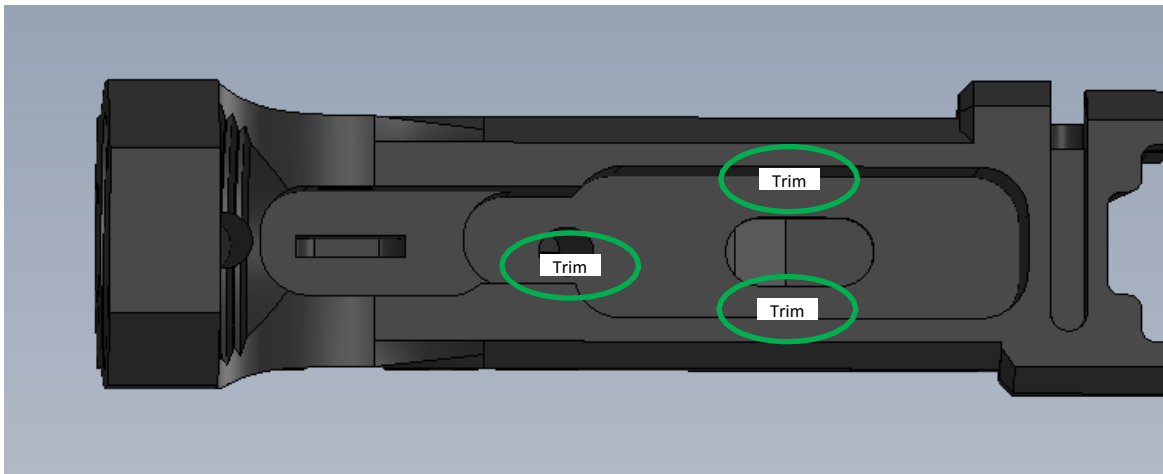

Figure 4
12. Final step is to start the trigger fitting: In **Figure 4**, there are 3 general areas that you'll focus on (besides the trigger hole itself). The trigger should just drop straight down in there cleanly, but it's never happened to me without some additional fine tuning. **Using the dremel bit on the slowest setting**, I carefully and slowly trim surfaces to make sure the trigger operates smoothly. The rear section on the left side of the below figure is where you need to be careful not to penetrate too far on the wall because the safety selector switch **detent and spring** are very close to this area, and the Milspec leaves very little room for error.